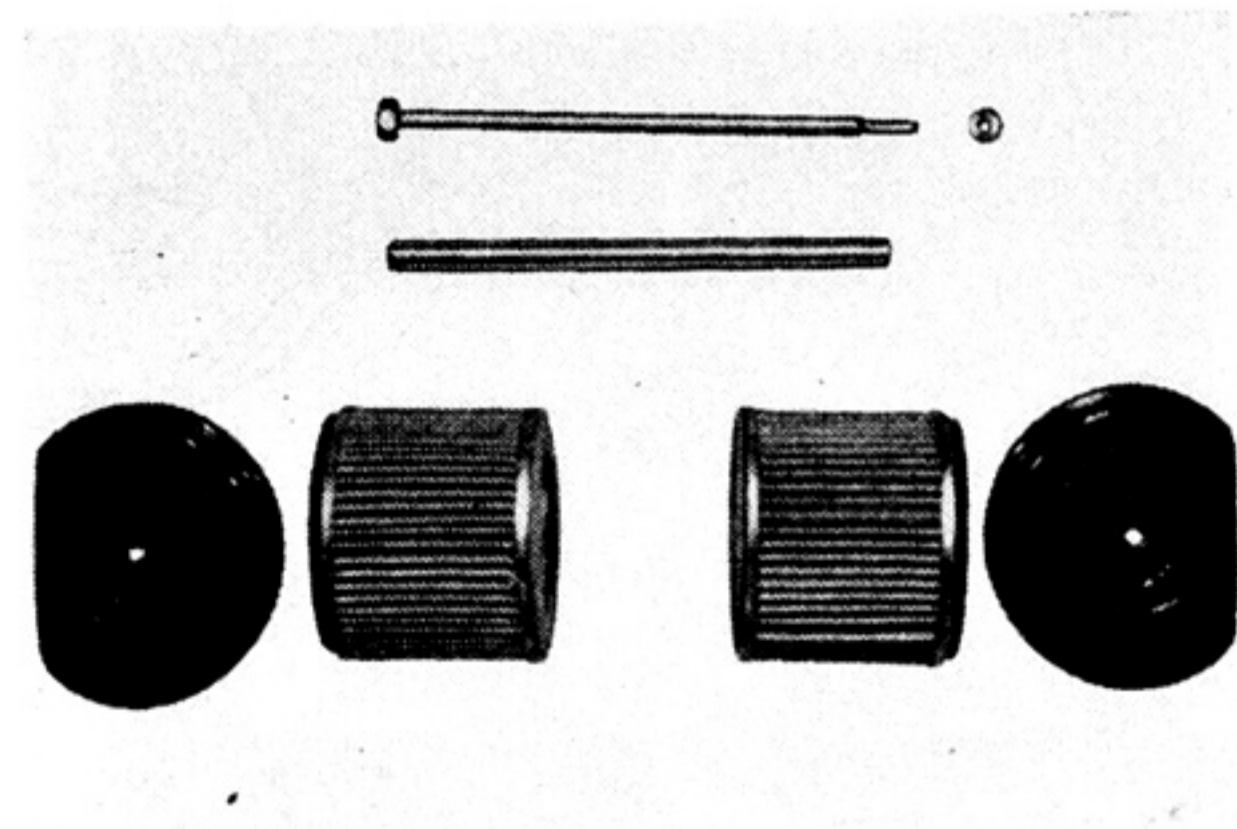

Fig. 3-19-2
- The filter element is of the split type. (Fig. 3-19-2)